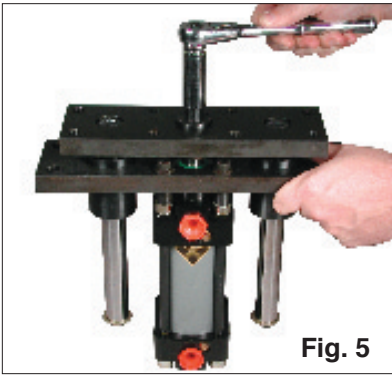

Fig. 5
7. Tighten the center nut all the way, using the DADCO Spanner Tool Attachment (Fig. 5).